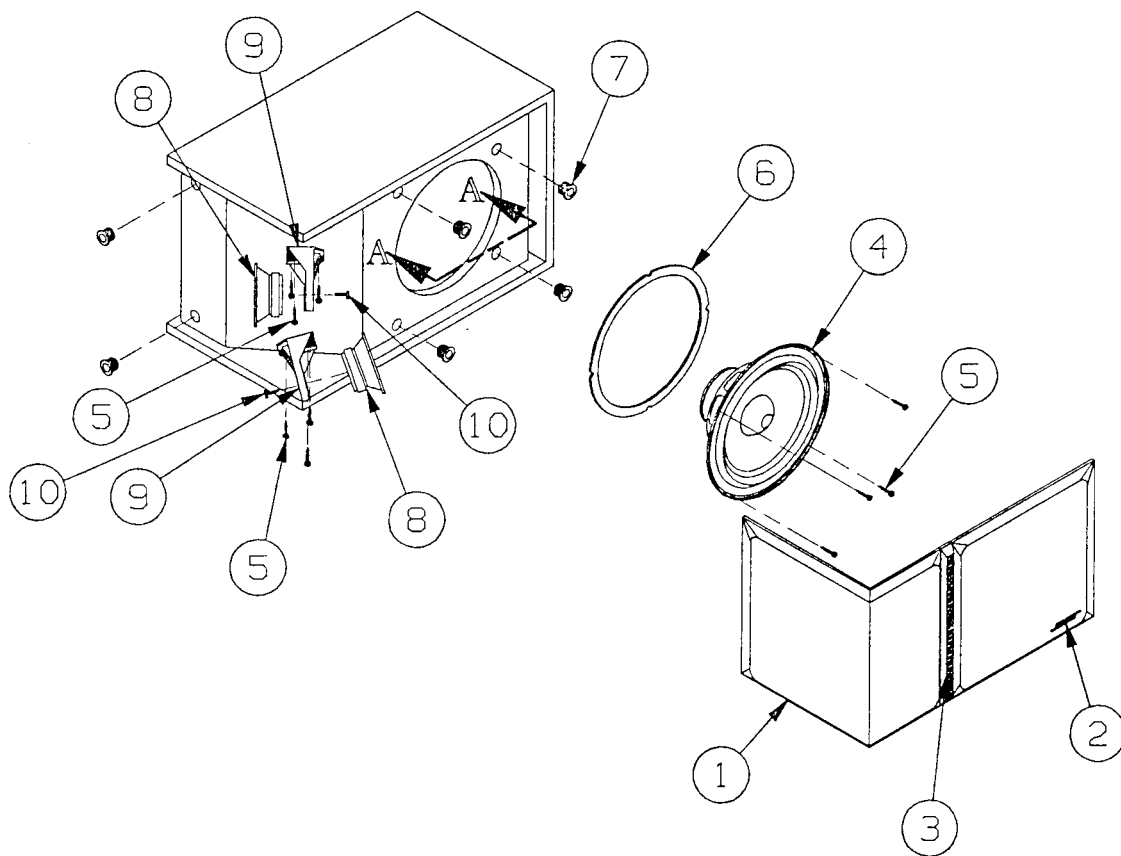

FIGURE 3
A. Remove the 4 screws holding the woofer in place. (Refer to **Figure 3** for an exploded view of the speaker assembly). Lift the woofer out and cut the wires connected to the woofer terminals as close to the terminals as possible. Strip the wires and connect to the replacement woofer. Make sure that the yellow wire is connected to the positive (+) terminal and the green wire is connected to the negative (-) terminal of the woofer. Remount the woofer to the cabinet using the 4 screws. Repeat the woofer test procedure.
A. The upper and lower tweeters are mounted on brackets. Refer to **Figure 3**. Remove one (1) screw which secures either tweeter to its bracket. Lift the tweeter away from the bracket and cut the wires connected to the tweeter as close to the tweeter terminals as possible. Strip the wires and connect to the replacement tweeter. The tweeters should be wired as follows:
A. The grille can only be remounted one way (see **Figure 3**). Align the grille feet with the 6 grille fasteners. Press in lightly until the grille feet are engaged by the grille fasteners. The grille assembly should be flush with the front and side of the cabinet. The nameplate should be located near the bottom side of the grille. See **Figure 3**.
301 Series III Parts List (Figure 3)
Crossover Parts List (Figure 3)